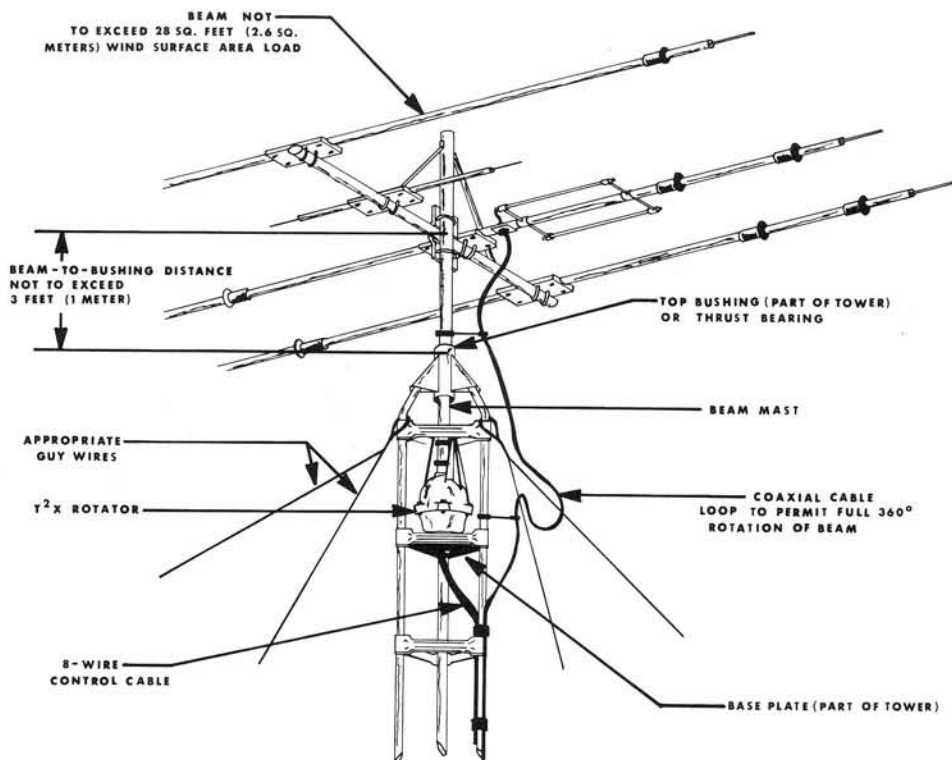
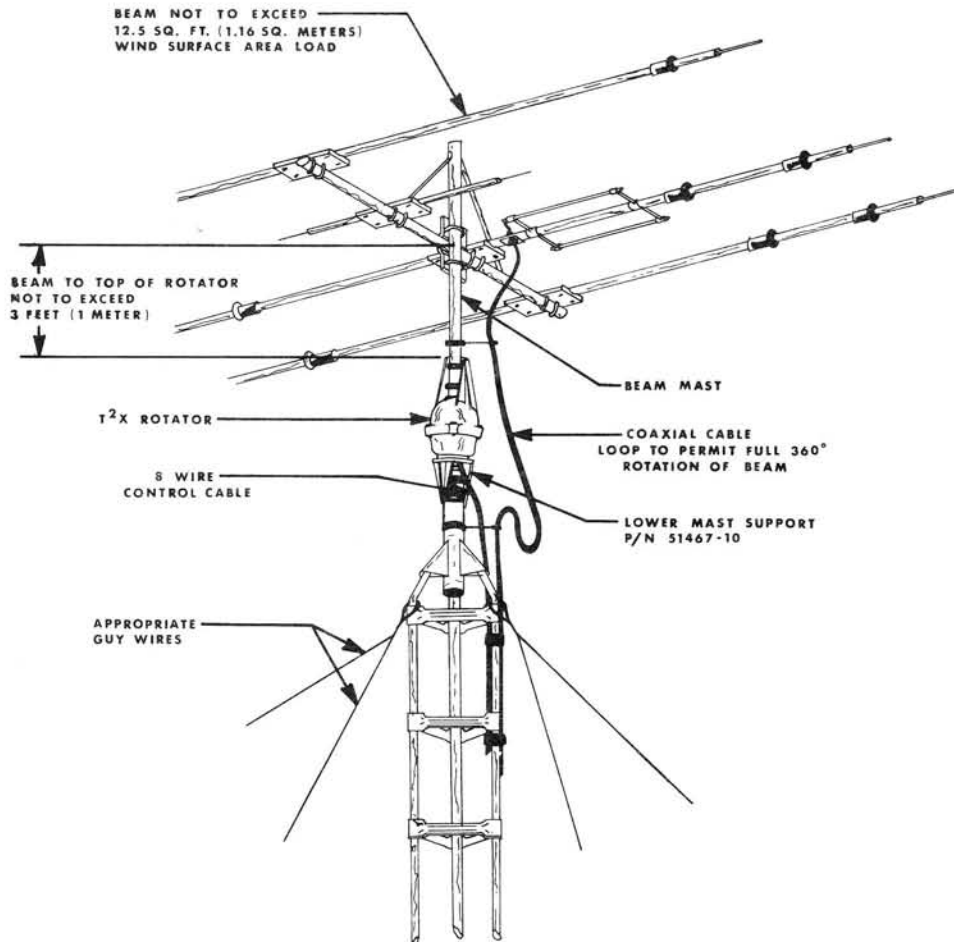

FIG. 1 - INSIDE TOWER MOUNTING
FIG. 2 - TOP OF TOWER MOUNTING
- D. When not mounted within a tower with a thrust bearing as shown in Figure 1, the rotator must be **DERATED** - See specifications.
The Taitwister rotor consist of an extra heavy duty rotator and control unit . The rotator is designed to be mounted on a plate inside a tower. A mast to support and turn large communications beams (see figure 1) is then attached to the top of the rotator. The rotator must be wired to the control unit with eight-wire cable. The control unit may be placed inside the house or other protected location. Included with the rotor are:
- G. Optional lower heavy duty Mast Support Kit must be procured if the owner elects to use an "outside" tower mount (see figures 2 and 3). The part number for the Lower Mast Support Kit is 51467-10. "Inside" tower (figure 1) is recommended.
There are three general types of installations (see figures 1 through 3).
2. An "outside" tower mount as shown (See Figure 2) is optional. The rotator is not as well protected but the installation is simpler. The owner must procure the Heavy Duty Lower Mast Support Kit, P/N 51467-10, to install as in figure 2 and derate to 12.5 square feet (1.16M²).
There are variations of the above falling generally into one of the above categories. For example, the rotator may be mounted lower in the tower than shown in Figure 1. In that case, more than one bushing or thrust bearing for the beam mast may be required and longer coast down time allowed in operation. These factors are interrelated and the components must be matched together.
A. **INSIDE TOWER** The rotator is mounted inside a tower (see figure 1) to the flat tower plate by means of six bolts furnished in the hardware kit. Use the following procedure:
9. Return the rotator to the full CW "S" position. Mount the beam pointing South. The coaxial cable should be looped as per Figure 1 in such a manner that it will not foul or tangle when the beam turns around in a circle to the full 360° clockwise position.
Referring to figures 2, 3 and 7 an outside tower or pole mount is made in the same manner except that the rotator is fastened by four bolts only (not six), to the lower mast support, P/N 51467-10. Since the eccentricity of the rotator turning in reference to the tower is no longer important, the shimming procedure is not necessary. The four screws must be torqued to the same specification and the 8-wire cable securely fastened. The lower mast support should be pinned with the bolt provided by drilling in the same manner as described for the upper bell casting. **CAUTION:** The rotator is designed for vertical operation with the bell shaped housing in the up position. Water and other contamination will get into the motor unit if it is mounted horizontally or up-side down.
The stock Tailtwister T²X is intended to mount on the base plate inside of the tower. However, in some instances outside tower or mast mounting is desired as per figures 2 and 3. This kit, part number 51467-10, contains a heavy duty lower mast support and the necessary hardware to facilitate mounting the T²X on top of a tower stub or mast. Caution, when the rotator is installed using the lower mast support kit, the antenna size must be restricted to 12.5 square feet (1.16m²) of wind surface area.